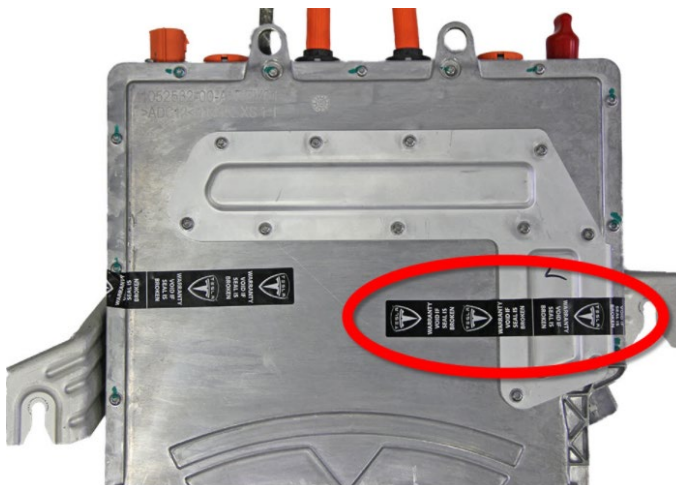

Figure 2
3. Remove and discard the warranty label from the charger access panel (Figure 2).